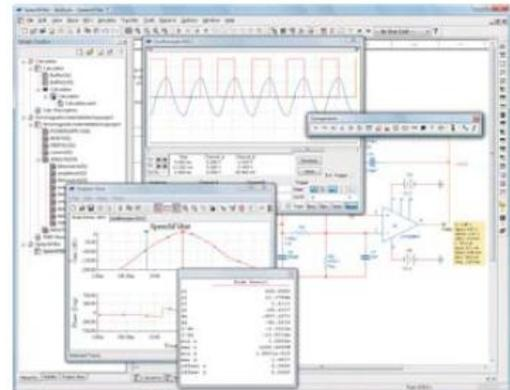

Figure 3. Use intuitive simulation instruments and analyses to validate design behavior without expertise in SPICE.
- Choice of 22 simulation instruments (Figure 3) to visualize design behavior